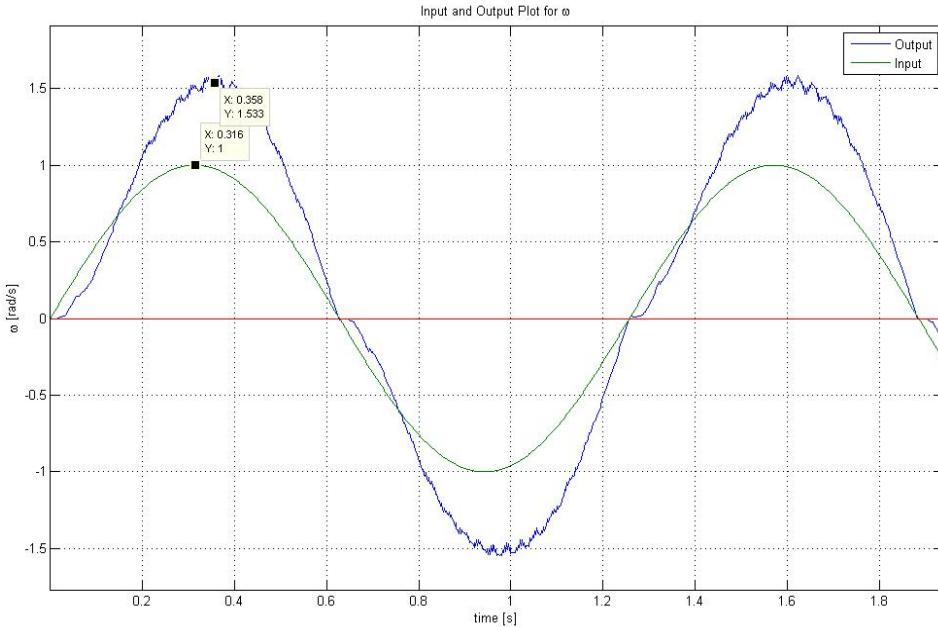

Figure 2.2: Matlab generated plot of the input and output of the system for  $\omega_u = 5$  rads/sec
2. The frequency response of a system is determined by first constructing a Bode Plot. This is done by inputting different sine waves with varying frequencies, and measuring the magnitude and phase difference between the input and the output. For example, Figure 2.2 shows the input and output of the system for a sine wave with  $\omega_u = 5$  rads/sec. Notice how the magnitude of the output is larger, and the peak time is shifted by roughly 0.05s. This observation will be made for sine waves with frequencies varying from 0.5 rads/sec to 300 rads/sec, or possibly even higher.